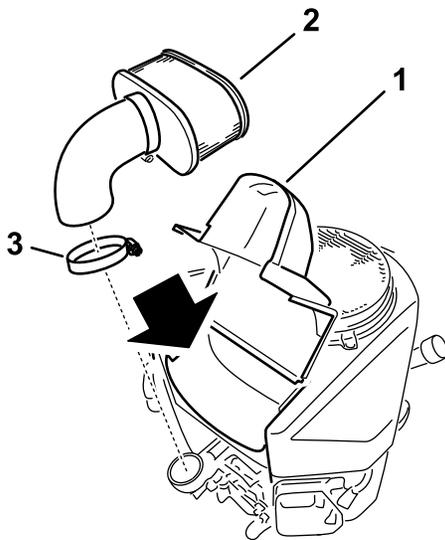

Figure 28
4. Loosen the hose clamp and remove the paper element (Figure 28).